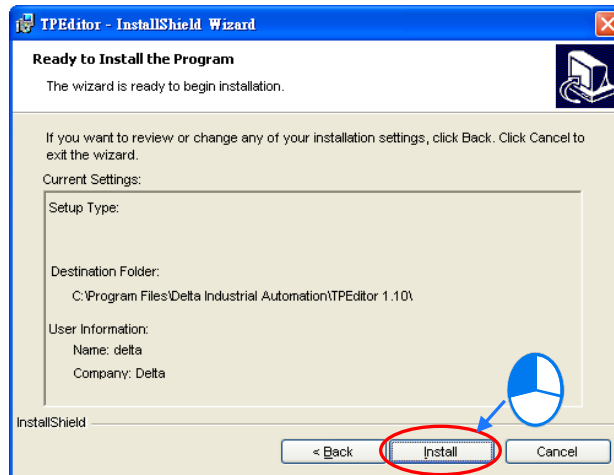

Figure 1-5 Process of installing TPEDITOR
(7) Check the installation information, and then click **Install**, as shown in Figure 1-5.